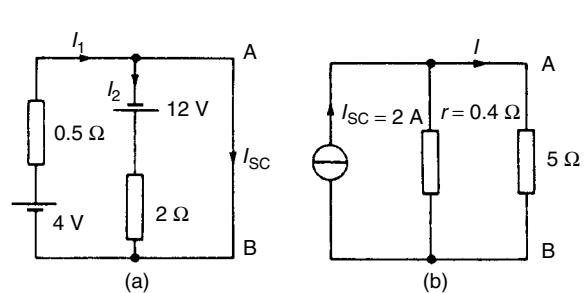

Figure 13.58
- (i) The 5Ω branch is short-circuited as shown in Fig. 13.58(a)
- (ii) From Fig. 13.58(a),
- (iv) From the Norton equivalent network shown in Fig. 13.58(b) the current in the $5\ \Omega$ resistance is given by: